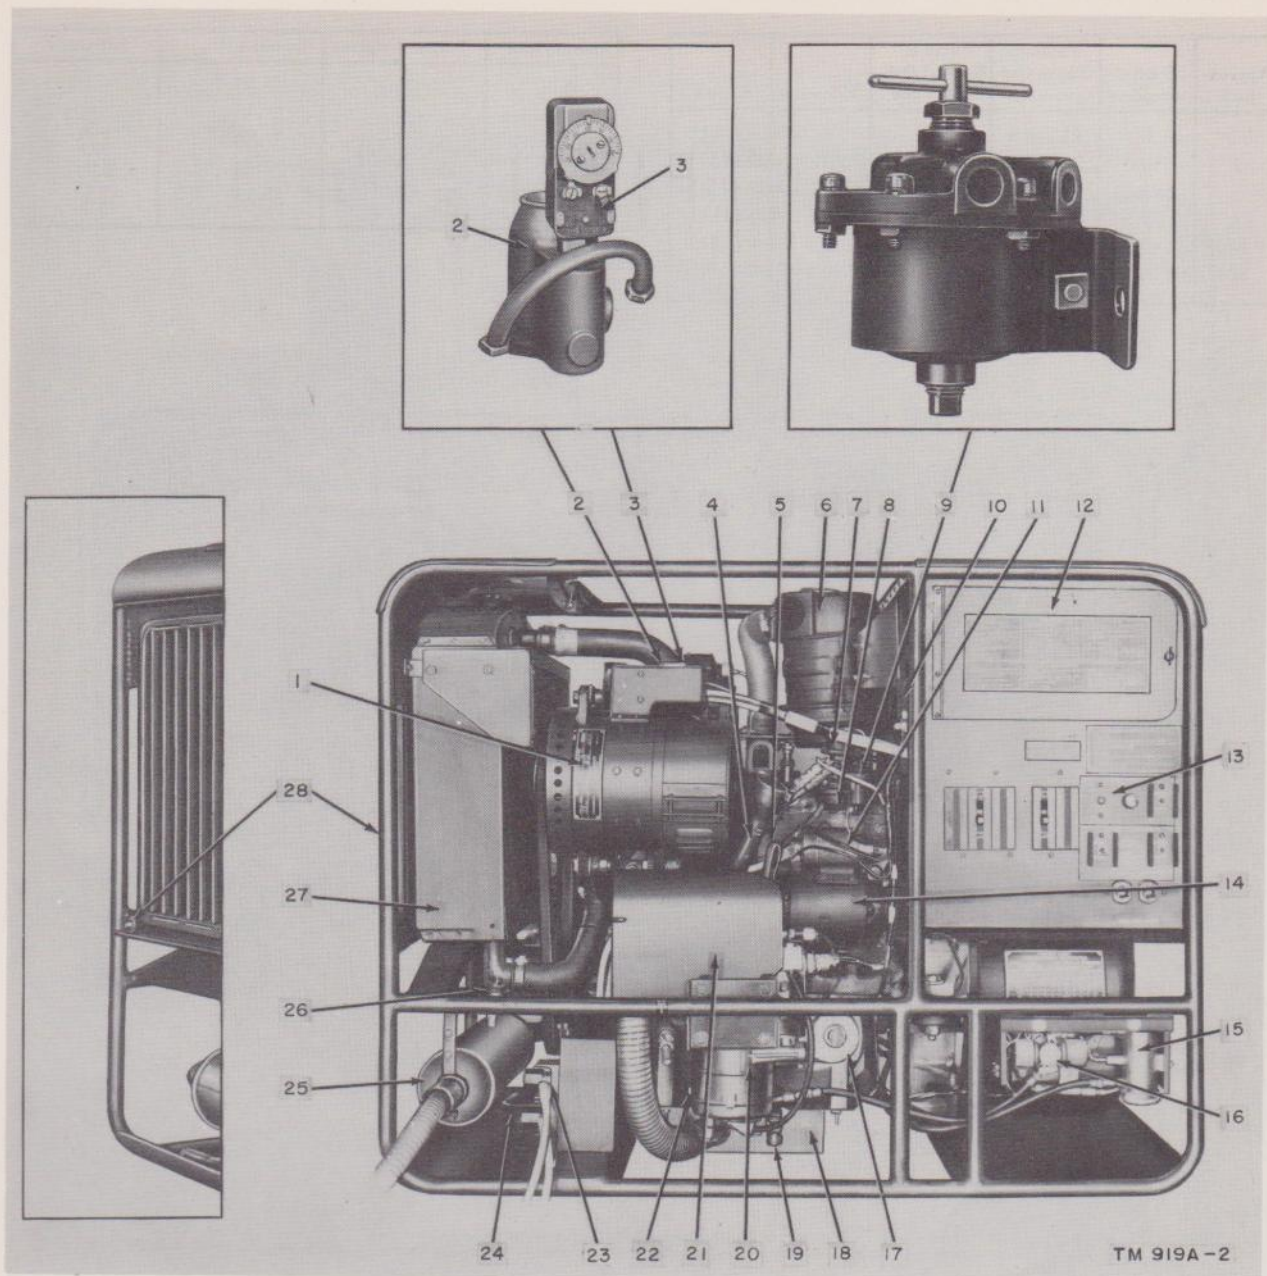

Figure 2. Gasoline Engine Generator Set PU-107A/U, left side.
*a. Engine.* The generator is driven by a conventional, L-head, four-stroke cycle, four-cylinder, liquid cooled, gasoline engine. Ignition is provided by a high-tension magneto (11, fig. 3) and self shielded spark plugs (3, fig. 3). A 15-quart, tubular-cell radiator (27, fig. 2), belt driven fan and water pump comprise the major elements of the cooling system. The engine is lubricated by a gear-type oil pump that delivers oil under pressure to the main bearings and connecting rod bearings. The fuel system consists of an up-draft carburetor (14, fig. 3), a diaphragm-type fuel pump (16, fig. 3), and a remote fuel line and fuel drum adapter. There is no fuel tank on the unit. The engine may be started by means of a hand crank or by a 24-volt electric starting system. Two 12-volt storage batteries, connected in series, are provided to supply power for the electric starting motor. A belt-driven, 24-volt dc generator (5, fig. 3) maintains the batteries in a charged condition.
*b. Winterization system.* A winterization system is provided to aid in starting the engine in low temperatures. The winterization unit consists of a fuel pump (15, fig. 2), fuel control valve (16, fig. 2), blower (17, fig. 2), heat exchanger pan (18, fig. 2), and shield (21, fig. 2). A switch, circuit breaker, and indicator lamp for control of the winterization system are mounted on the unit control panel.
*d. Dc power generator.* A separate, 28-volt dc generator (1, fig. 2) is mounted to one side of the engine and driven by a V-belt from the engine crankshaft. This generator, when operated at 4,500 rpm, will deliver 2.5 kw, 28 volts dc.